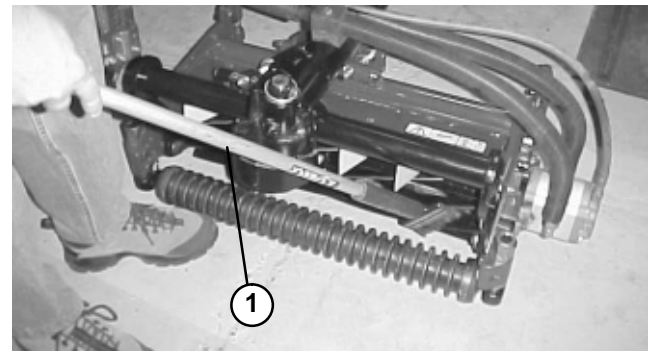

Figure 38
8. Apply lapping compound with a long handle brush (Toro Part No. 29-9100). Never use a short handled brush (Fig. 38).